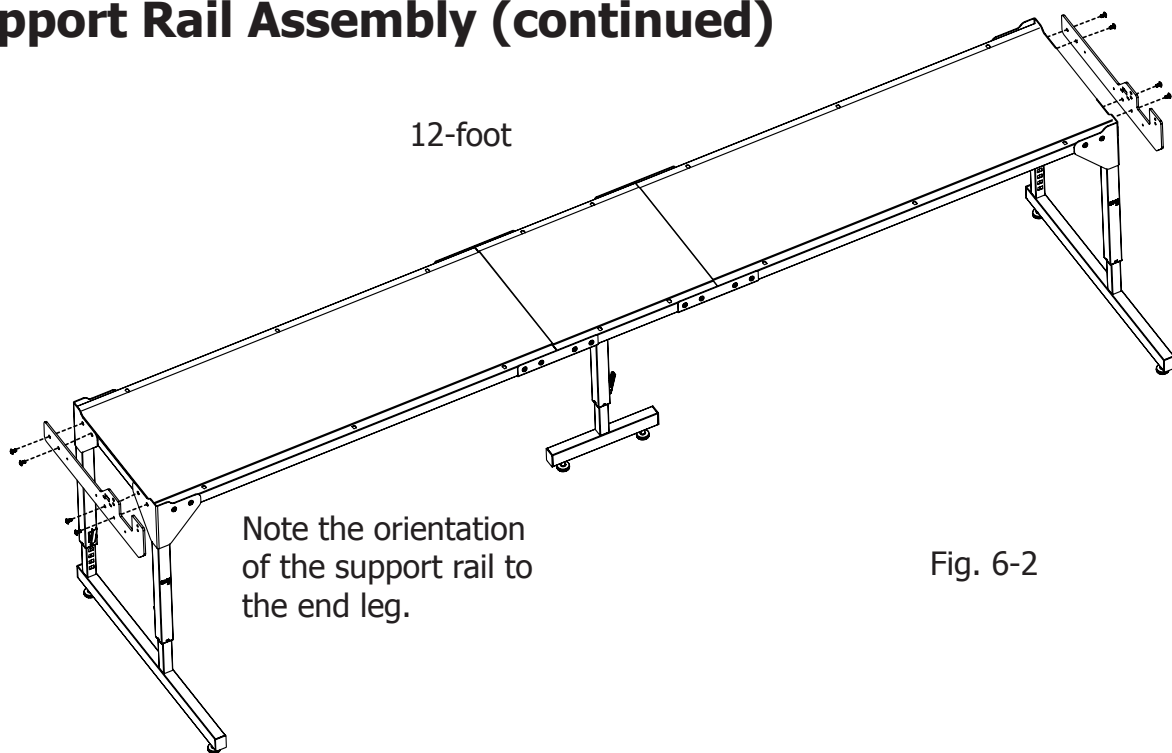

Fig. 6-2
6-3: For twelve-foot frame: Align the support rail to the end of the frame, orienting the rail at both ends of the table as shown in **Fig. 6-2**. Insert the four (4) M8x25mm QF09318-06 through the support rail and into the frame and fully tighten with the 5mm Allen wrench. (**Fig. 6-2**)